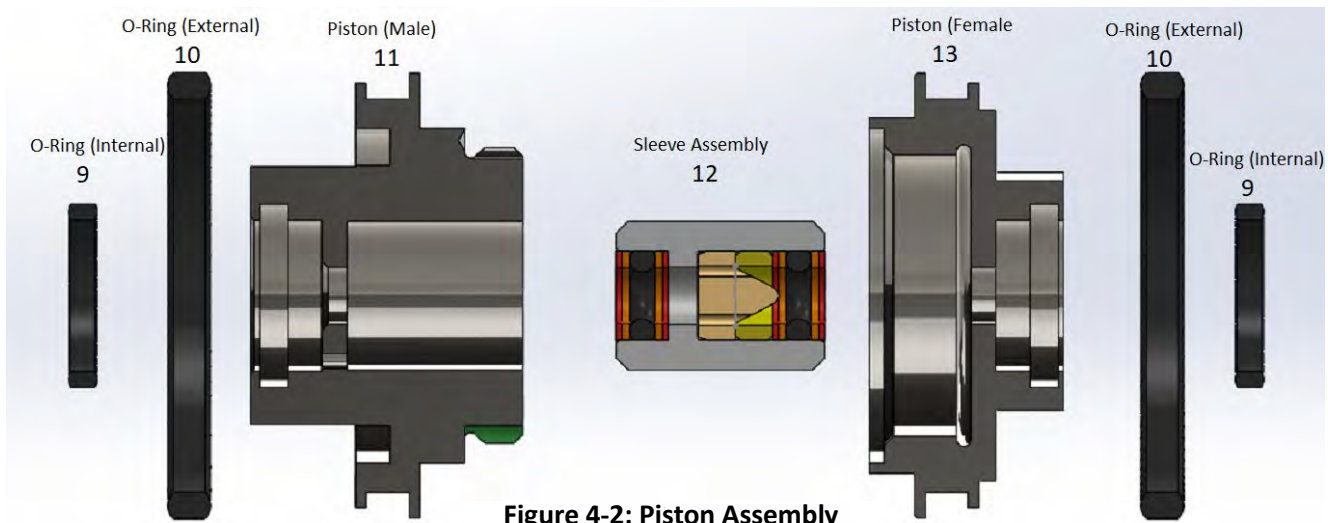

Figure 4-2: Piston Assembly
Refer to Figure 4-2, above, for the following instructions.
Refer to Figure 4-2 to reassemble the Piston Assembly, following the instructions below.
3. As shown in Figure 4-2, each Piston half has two O-rings; one larger, external O-ring [10] and one smaller, internal O-ring [9]. To remove any of these, use a tool such as a small wooden skewer or nylon rod, approximately 1/8” in diameter and tapered at one end. Use care not to scratch or leave particles in the O-ring grooves.